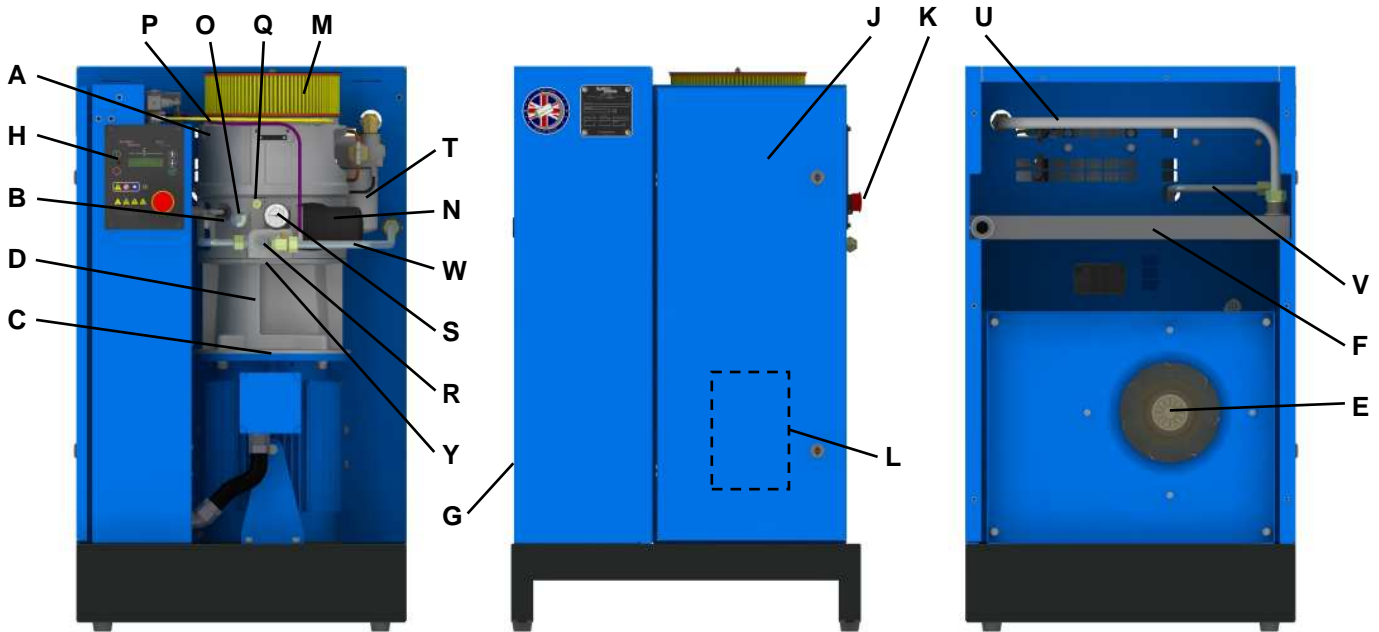

Fig 4.2 Compressor Assembly
Figure 4.1 shows general views of typical units, the compressor assembly is detailed in Section 4.3 / Fig 4.2, the air dryer is supplied with its own manual.
4.3 Compressor Assembly (Fig.4.2)